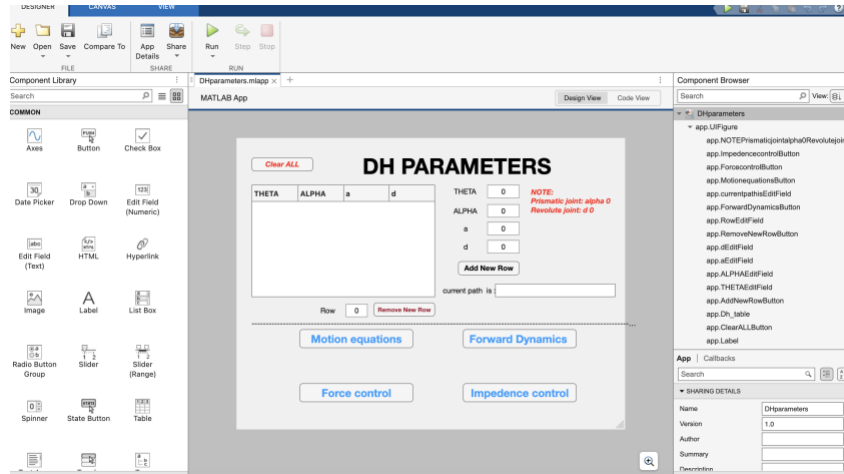

Figure 2
**Step 1.** After opening the DHparameters.mlapp file use the run command to start the Toolbox as shown in Figure 2.